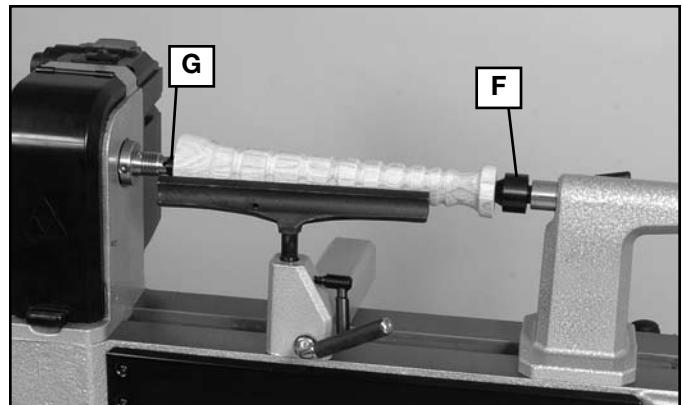

Fig. 5
**WARNING:** To reduce the risk of injury, be sure the taper on the spur center (G) is clean before mounting to the headstock spindle.
The spur center (G) Fig. 5 and live center (F) can be used together (as shown in Fig. 5) to turn workpieces up to 16-1/2" (419 mm) in length.